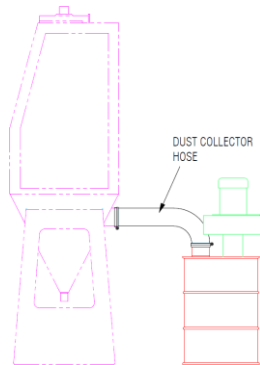

Figure 7 – PRO1000SC
- 3.5 Position the dust collector within approximately 1.5m of the rear of the blast cabinet. Then simply slide the hose over the cabinet spigot, and clamp firmly in place using the worm drive clamps provided. Repeat this process with the dust collector inlet spigot. See figures 7 – 10.